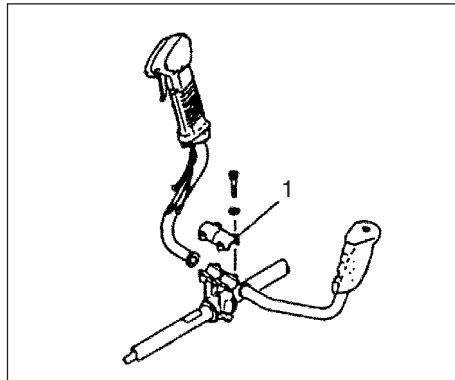

Fig.1-3
Remove the handle bracket (1) from the assembly. (Fig. 1-3)